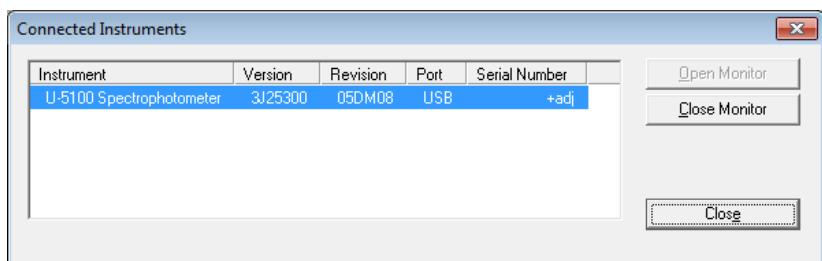

Fig. 1-57
Select the Instruments (I) command from the Tools (T) menu or click the  button. A dialog box as shown in Fig. 1-57 will appear. You can thus check the serial number of your spectrophotometer.